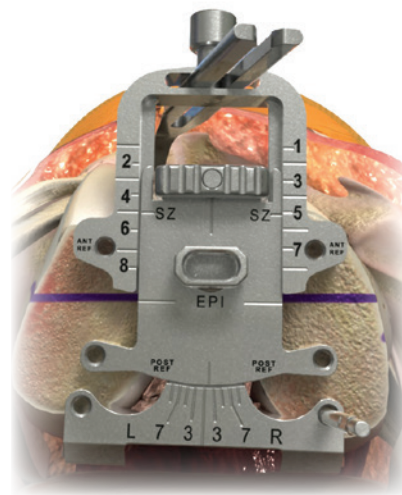

Figure 16e
8. Once implant size and external rotation are determined place two pins in the appropriate anterior OR posterior referencing pin holes (not both). Remove the Femoral Sizer by sliding it off the secured trocar pins, leaving the pins in situ (Figure 16e and 16f).